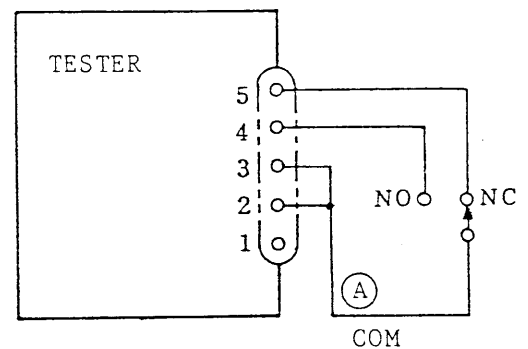

Figure 4.9
- (3) In the case of the setup shown in Figure 4.9, the test voltage is turned on when the switch is thrown to the NO Position, and the instrument is forcibly reset when the switch is thrown to the NC position.